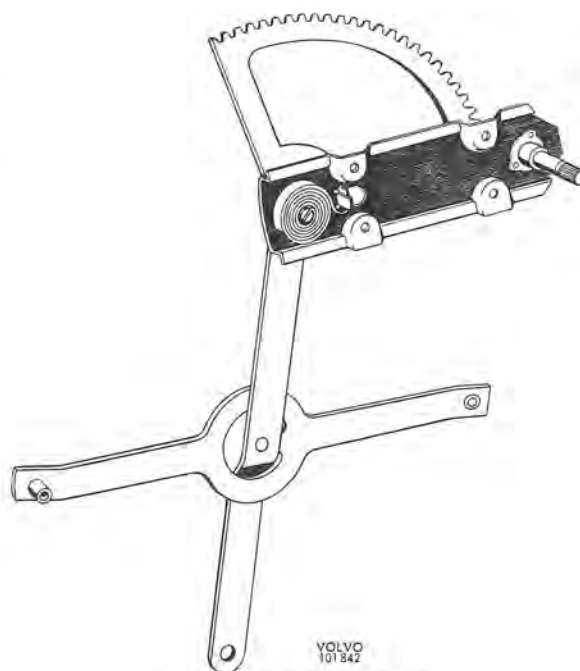

Fig. 8-19. Winding mechanism
6. Remove the attaching screws for the window winder, see Fig. 8-10, and remove it from the door, see Fig. 8-19.